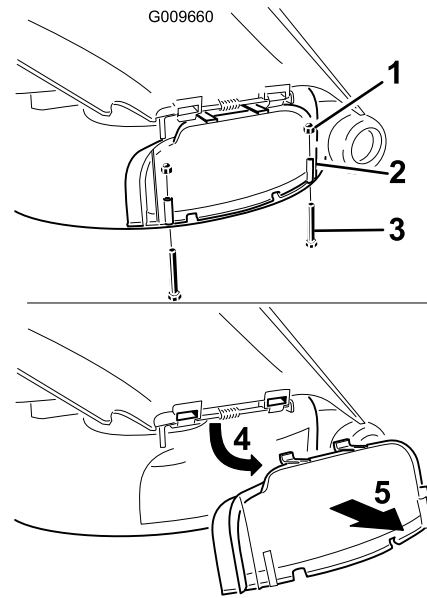

Figure 22
3. Remove the 2 bolts and nuts that secure the discharge cover to the mower (Figure 22).